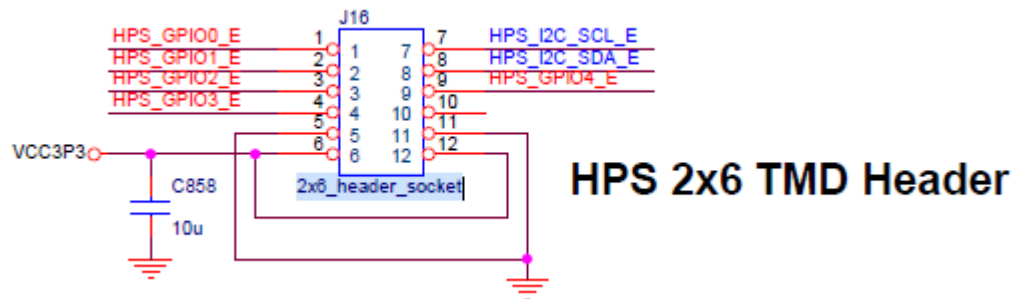

Figure 3-2 GPIO Header Pin location
1. Use two jumper caps to connect HPS_GPIO0 to HPS_GPIO1 and HPS_GPIO2 to HPS_GPIO3 in hps gpio header(J16) on the Apollo Agilex Module. **Figure 3-2** shows the pin location below.